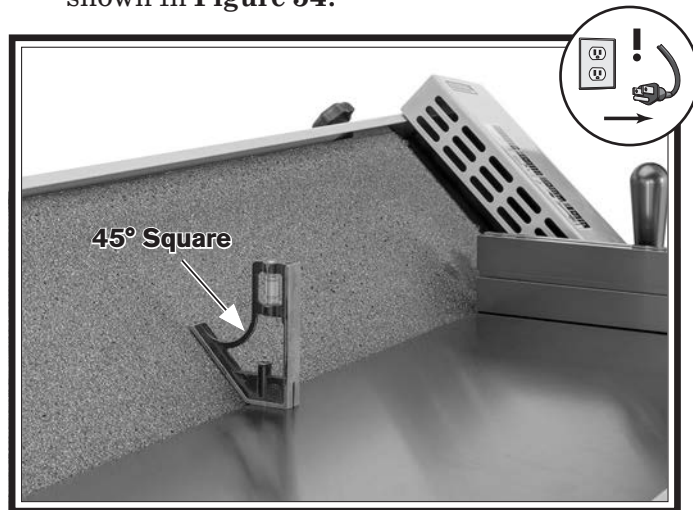

Figure 54. Checking platen with 45° square.
5. Place 45° square against table and platen, as shown in **Figure 54**.